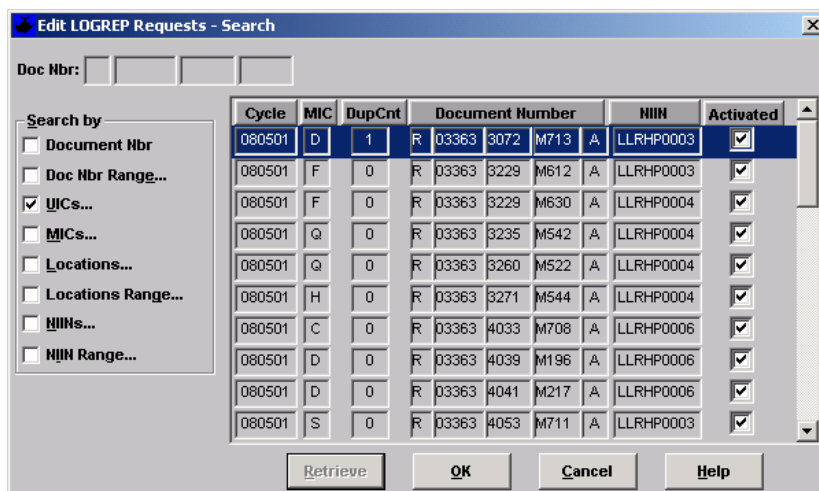

Figure 6.5
- 6.2.1 The *Edit LOGREP Requests - Search* window (Figure 6.5) is used to specify retrieval criteria for a request. All records that meet these criteria are displayed. Once selected, the user can edit the request and then continue editing all remaining requests.